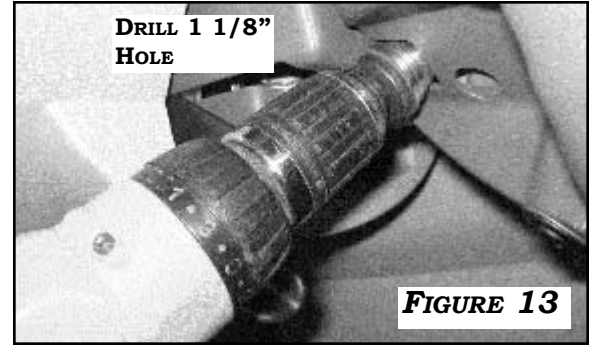
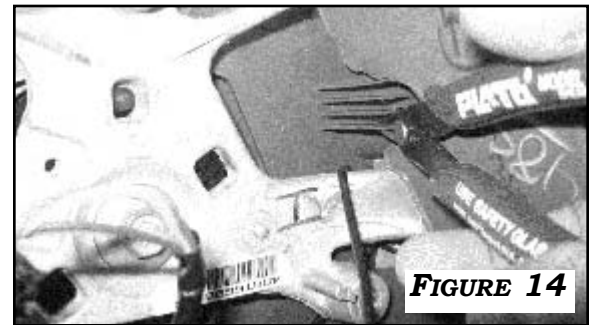

FIGURE 13
FIGURE 14
1. TURN STEERING WHEEL TO LEFT POSITION TO DRILL **1 1/8"** HOLE IN CENTER OF EXISTING OUTLINE FOR SWITCH LOCATION. **FIGURE 13**. CUT OUT REMAINING RIBS INSIDE STEERING WHEEL AS SHOWN IN **FIGURE 14**.